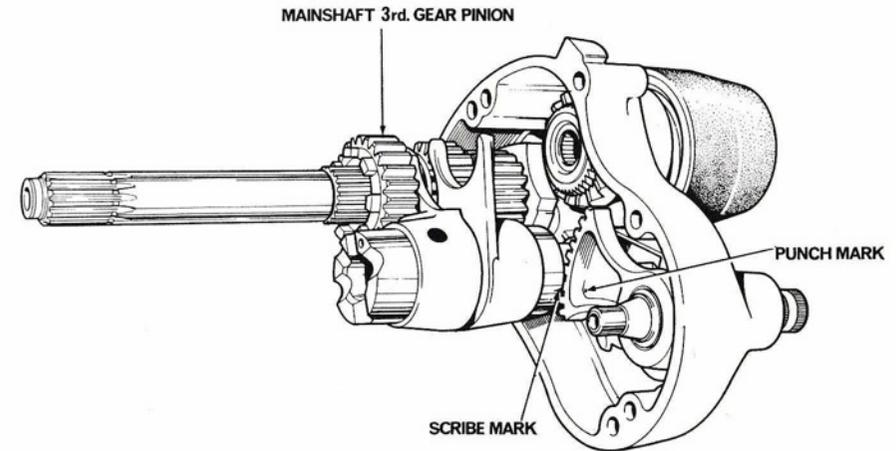

Fig. 39 Aligning punch mark on quadrant with scribe mark on cam barrel.
- 9 Assemble the mainshaft third gear pinion to the mainshaft selector fork on the cam barrel (see Fig. 39).
- 10 Offer the mainshaft third gear pinion and cam barrel together to the gearbox cover and mainshaft – the third gear passes over the mainshaft as the cam barrel enters through the thrust washer 27598 into the needle roller bearing. At the same time the quadrant punch mark (by the third tooth) must be aligned with the scribe mark on the cam barrel (see Fig. 39).
- 5 To do this, turn the cam barrel until the timing scribe is at the 8 o'clock position (see Fig. 39) or alternatively turn the barrel clockwise to the limit of its movement and allow it to drop back as the index plunger locates.